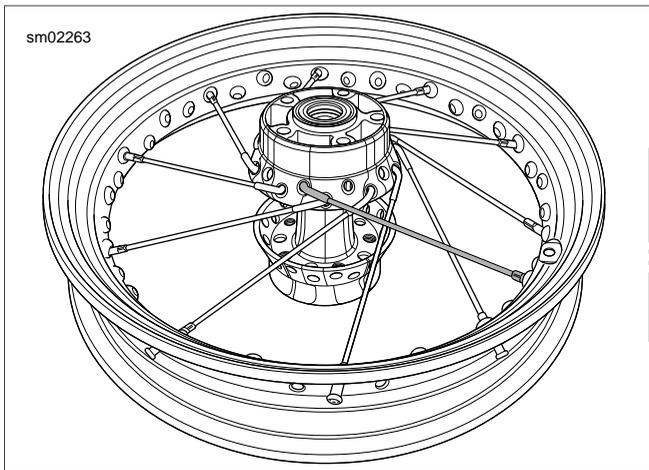

Figure 2-19. Brake Side Up: Start First Spoke of Top Row
- See Figure 2-19. Place first **upper** row spoke into hub as shown. Angle spoke counterclockwise, **crossing four lower row spokes**. Spoke must enter hole to left of valve stem hole.